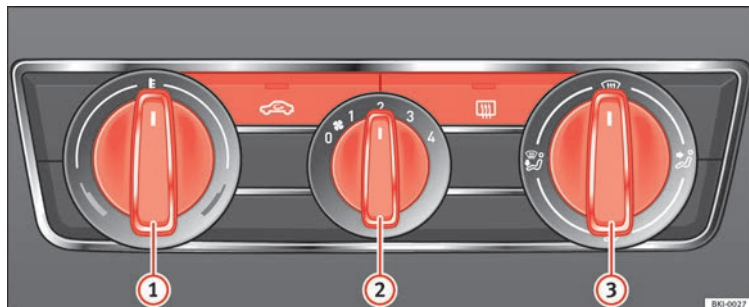

Fig. 170 Heating controls on the dash panel.
» **Fig. 170 ①** anti-clockwise.
- Turn blower switch **②** to any of the levels 1-4.
- Set the airflow to the desired direction using air distribution control **③**.
» **Fig. 170 ①** clockwise to select the required temperature.
» **Fig. 170 ①** clockwise to reach the maximum temperature.
- Turn the blower switch **②** to level 4.
» **Fig. 170 ①** to the heating zone.
- Turn blower switch **②** to any of the levels 2-3.